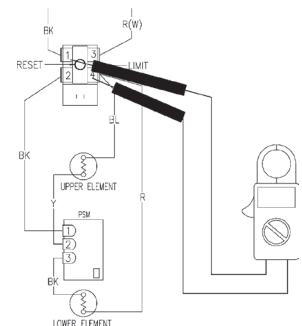

Figure 3
1. Check voltage across terminals 1 & 4 of the High Limit (ECO) (see Figure 3).
2. Turn power "OFF" to water heater and firmly press ECO reset button on the High Limit (ECO). Turn power "ON" and recheck voltage across terminals 1 & 4 of the High Limit (ECO) (see Figure 3).